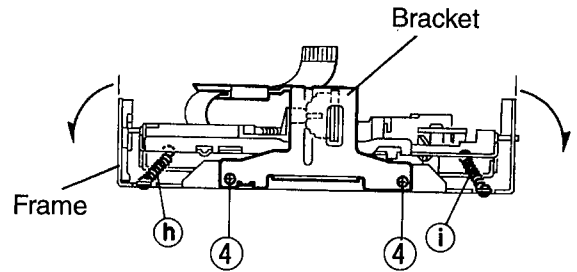

Fig.16
- 1.Remove the two screws ④ retaining the bracket for fixing the damper(See Fig.16)
- 3.Remove the two springs ㉘ and ㉙ as shown in Fig.10 and Fig 16.